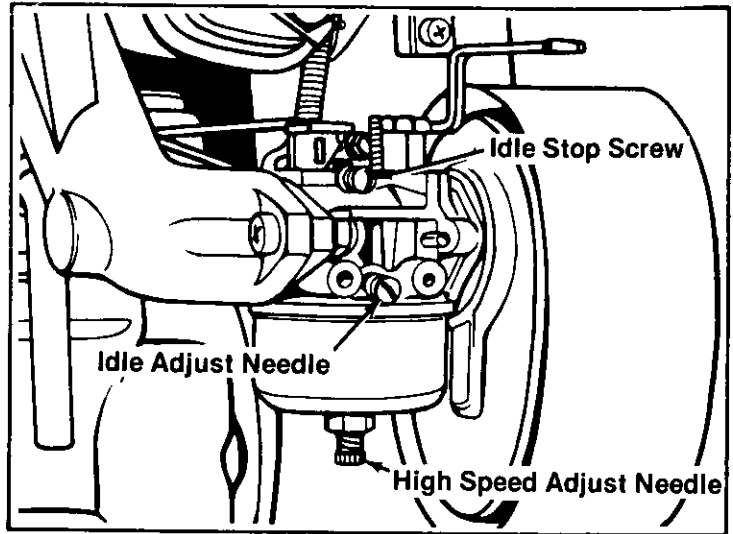

FIGURE 36.
1. Carburetor Adjustments (See figure 36.)